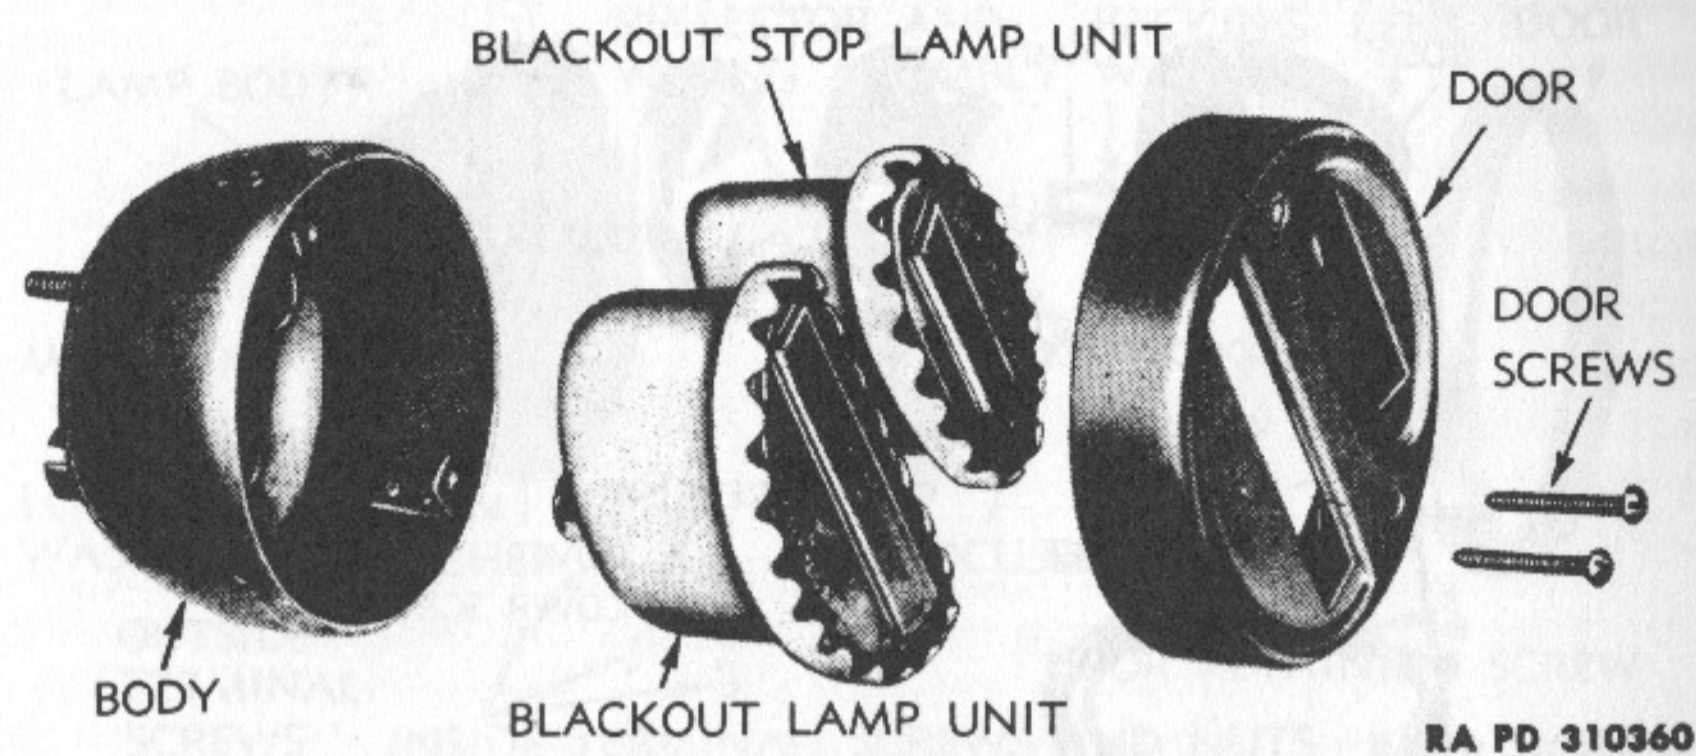

Figure 88—Blackout Taillight, Disassembled
(1) **BLACKOUT TAILLIGHT** (fig. 88). The lower socket in the right taillight serves as the regular blackout taillight. The lamp is in a unit, and is interchangeable with the lamp unit in the lower half of the left taillight.